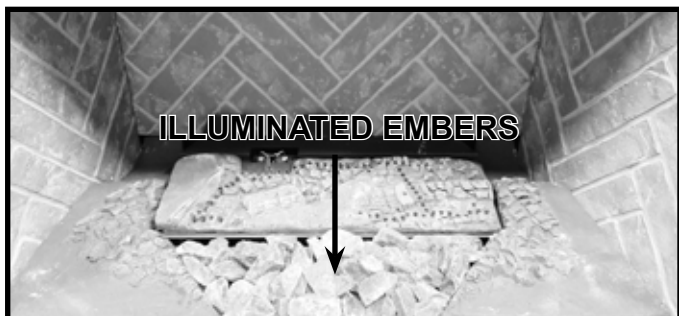

Figure 11.3 Illuminated Embers Installed
1. Pour the provided Stone Media between the left and right base refractories as shown in Figure 11.3.